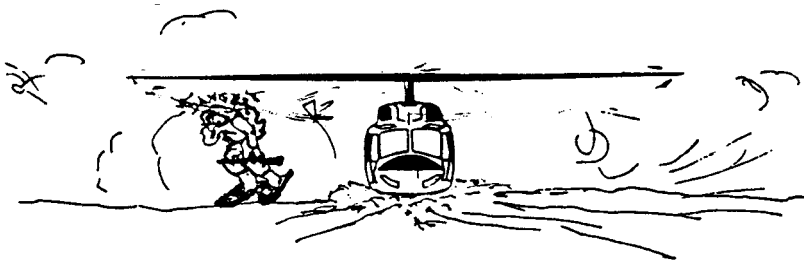

Figure 10-5. Beware of Rotor Clearance.
c. Debarkation. As during embarkation, the objective during debarkation is efficiency and safety. (Fig. 10-5)